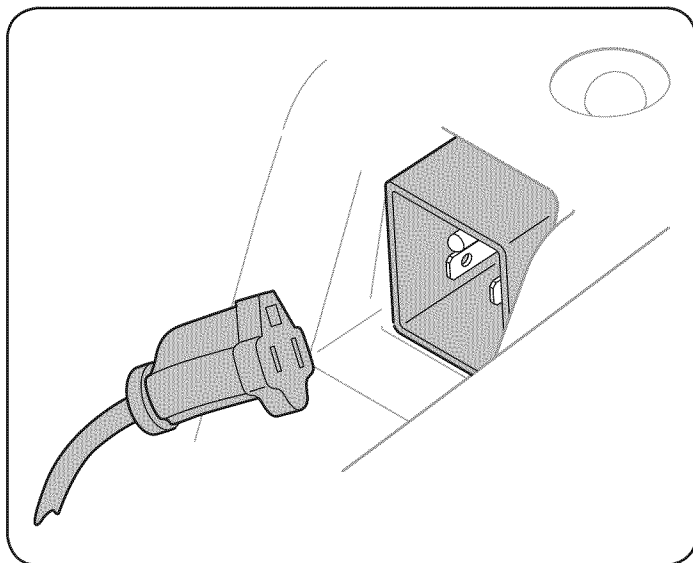

Figure 9
3. Plug the extension cord into the electric outlet located on the plastic shroud. Plug the other end of extension cord into a three-prong 120-volt, grounded, AC outlet in a well-ventilated area. See Figure 9.